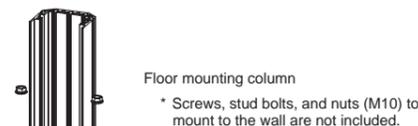

Fig. 1
- Temporarily tighten the Screws or the stud bolts and the Nuts (M10) to fix the Floor mounting column to the mounting position of the floor. (Fig. 1)